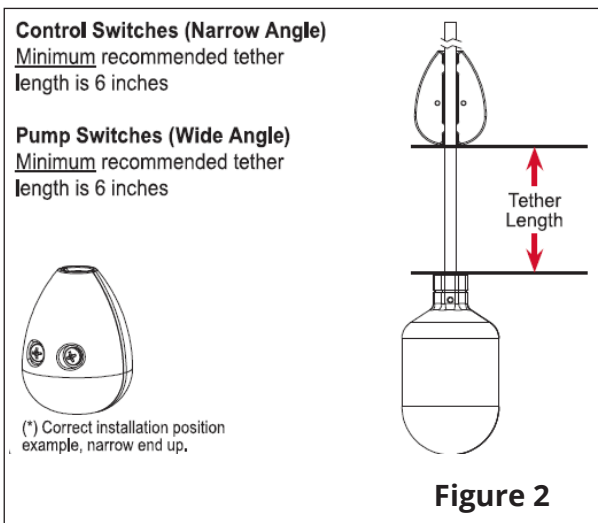

Figure 2
2. Determine the desired activation level, place the float switch cable in the cable slot on the bottom half, and tether to appropriate length (Figure 2).